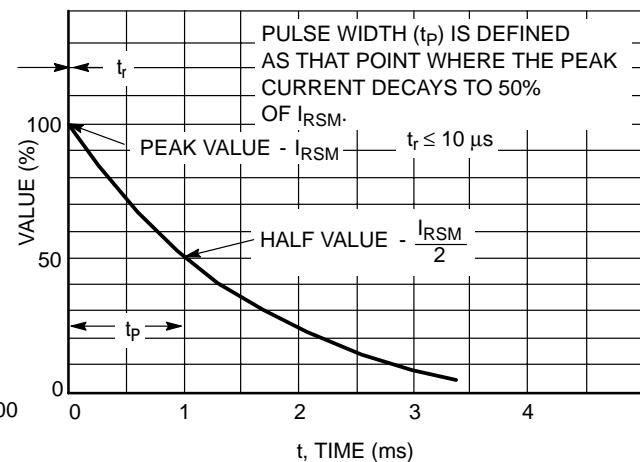
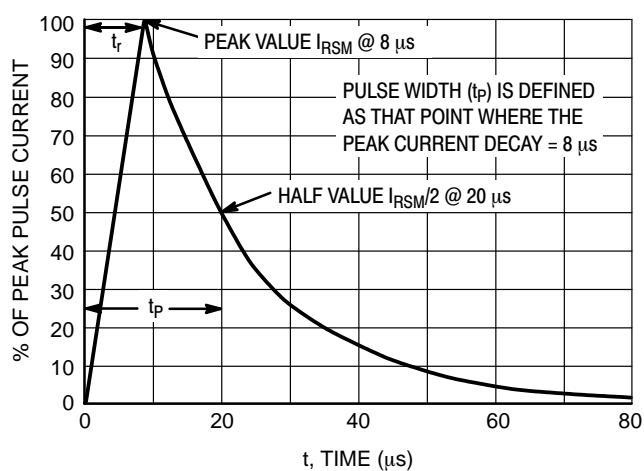

Figure 2. 10 X 1000 μ s Pulse Waveform
Figure 3. 8 X 20 μ s Pulse Waveform
1. Non-repetitive current pulse at $T_A = 25^\circ\text{C}$, per waveform of Figure 2.
2. Non-repetitive current pulse at $T_A = 25^\circ\text{C}$, per waveform of Figure 3.
7. Surge current waveform per Figure 2 and derate per Figure 3.